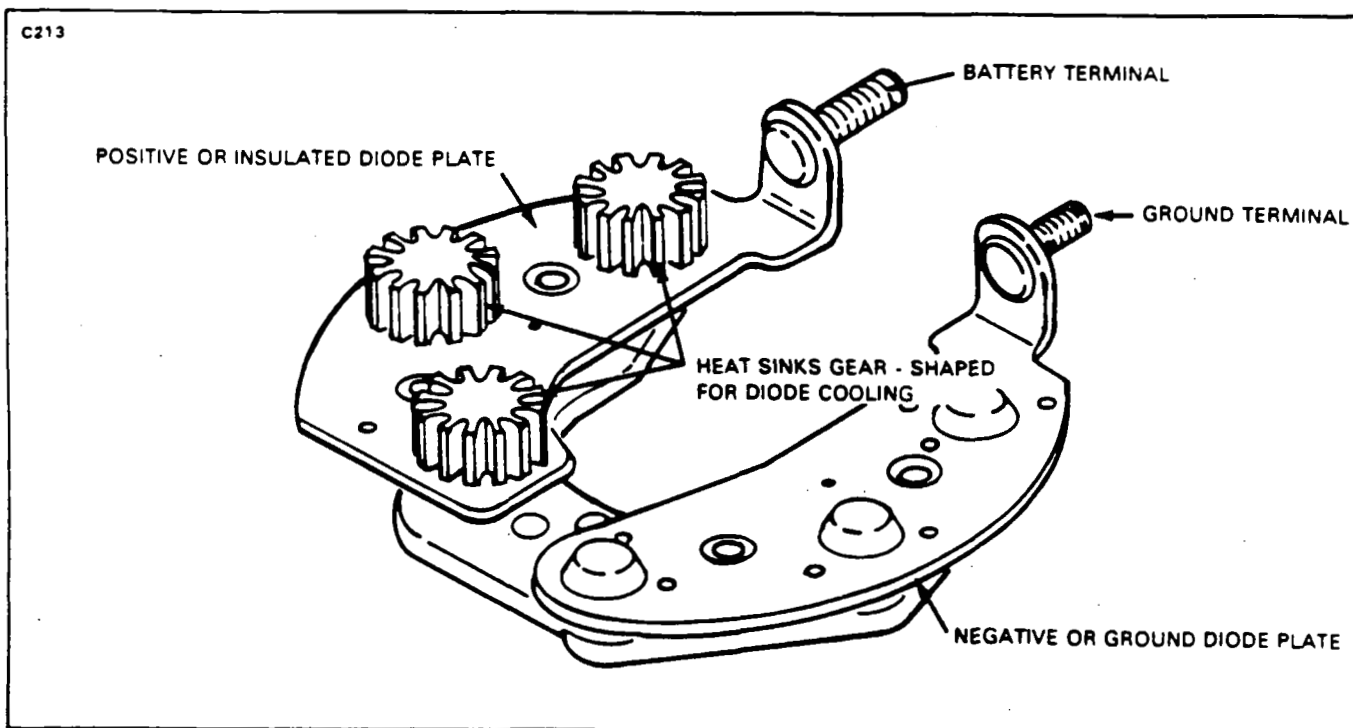

Figure 24-19. Rectifier Assembly
6. The rectifier assembly is located between the stator and the inside surface of the rear housing. Attachment to the housing is made by means of mounting studs that protrude from the positive and negative diode plates (heat sinks). The positive plate is insulated from the housing, and the negative plate is grounded to the housing through the studs. The rectifier assembly has a printed circuit board spaced away from the heat sinks. (Refer to Figure 24-19.)